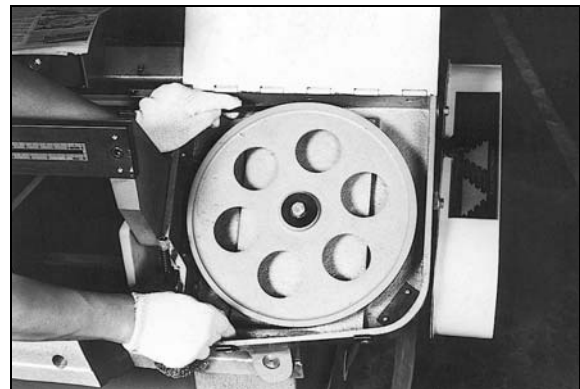

Fig 3
10. Put light tension on the blade and work it on both wheels, as shown in Fig.3. Make sure that the back of the blade is against the wheel flanges of both wheels. This is very important.